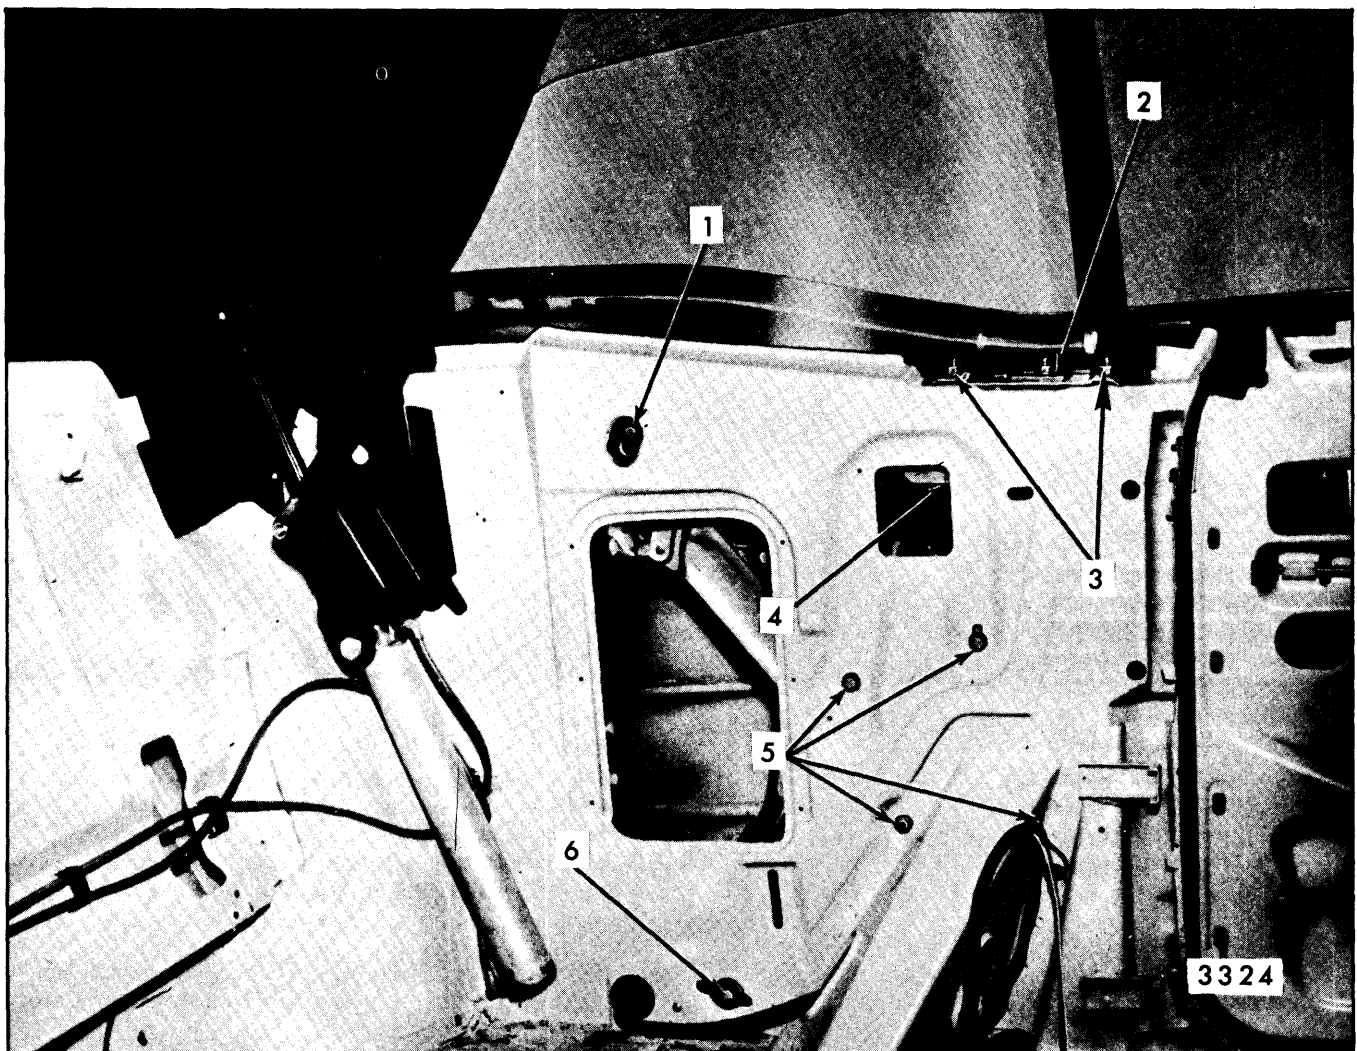

Fig. 7-44—Rear Quarter Hardware - “B-67” Styles
4. Remove regulator attaching bolts and slide lift arm rearward to disengage lift arm roller from window lower sash channel cam. Remove regulator through access hole (see Figs. 7-44 and 7-45).
3. Remove guide lower support to guide attaching bolt and guide upper support to inner panel (at belt line) attaching bolts (see Figs. 7-44 and 7-45).